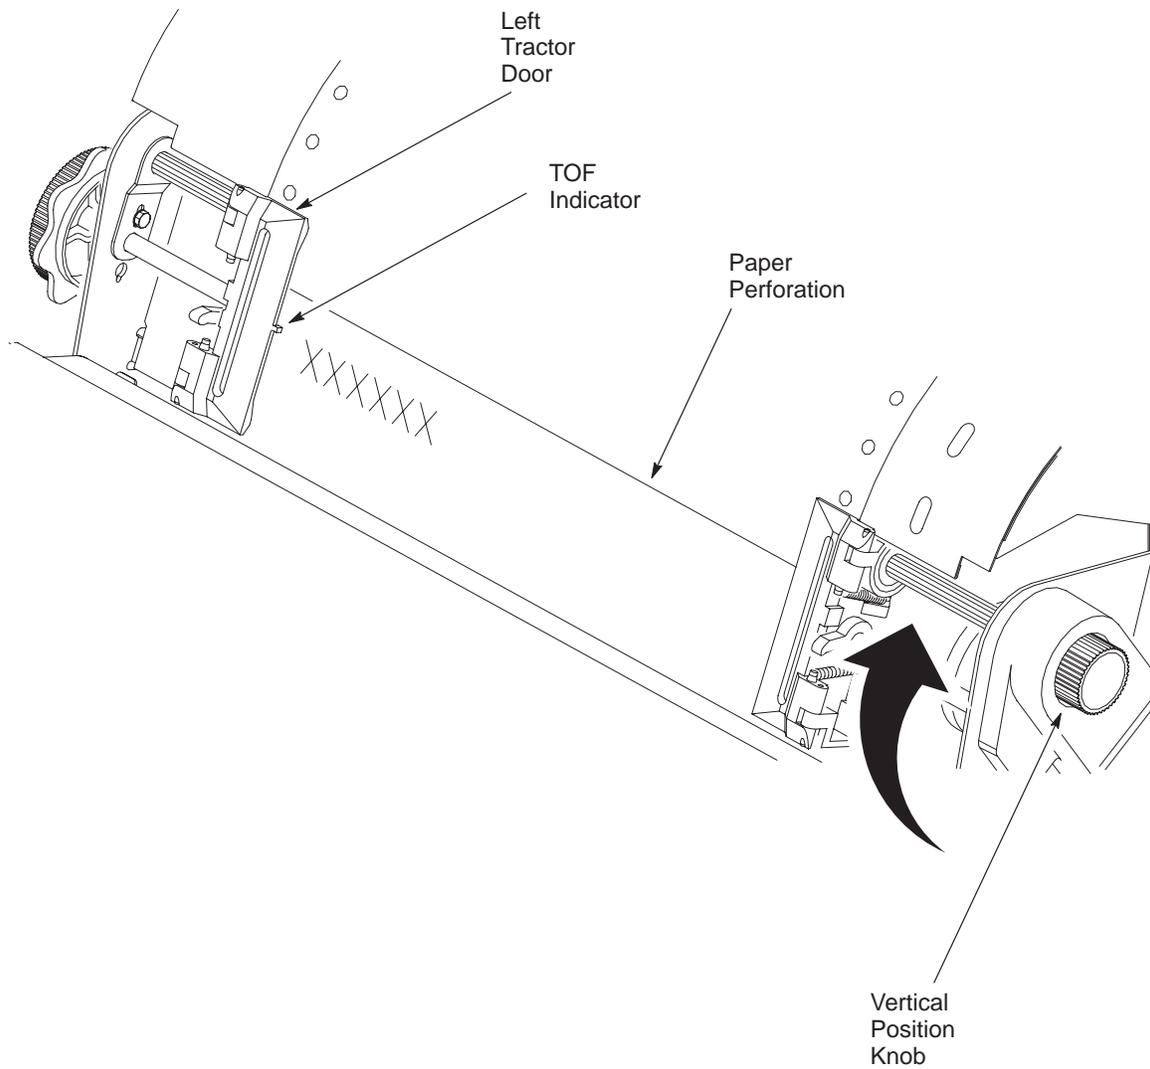

Figure 2–35. TOF Indicator
2. Locate the TOF indicator. It is the small tab located on the left tractor door. (See Figure 2–35.)